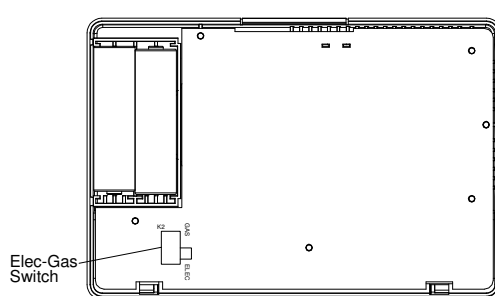

Figure 1. Electric/Gas Switch (Fan Option)
This thermostat is configured from the factory to operate a heat/ cool, fossil fuel (gas, oil, etc.), forced air system. It is configured correctly for any system that DOES NOT require the thermostat to energize the fan on a call for heat. If you system is an electric heat or heat-pump system that requires the thermostat to turn on the fan on a call for heat, locate the ELEC/GAS switch on the back of the thermostat (see fig. 1) and switch it to the ELEC position. This will allow the thermostat to energize the fan immediately on a call for heat. If you are unsure if the heating/ cooling system requires the thermostat to control the fan, contact a qualified heating and air conditioning service person. When the thermostat is configured for Heat Pump, the thermostat will always power the circulator fan on a call for heat in the HEAT mode. The ELEC/GAS switch must be set to match the type of Auxiliary heat your system uses for proper operation in the EMERgency mode.
- Fasten base loosely to wall, as shown in fig. 1, using two mounting screws. Place a level against bottom of base, adjust until level, and then tighten screws. (Leveling is for appearance only and will not affect thermostat operation.) If you are using existing mounting holes, or if holes drilled are too large and do not allow you to tighten base snugly, use plastic screw anchors to secure subbase.